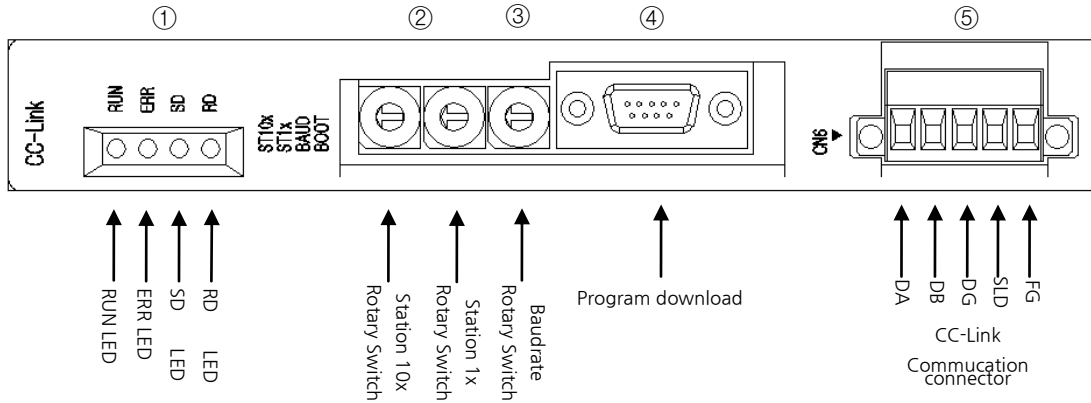

Fig. 3.1 Front View of CC-Link Option Card
The front view of CC-Link Option Board is shown in Fig. 3.1.
CC-Link Option Board, equipped with a total of 4 LEDs, is able to know the CC-Link Adapter status from the outside. Fig. 3.1 ④ shows how it looks like with the following functions.
Use the Station 10x Rotary Switch and Station 1x Rotary Switch in Fig. 3.1 ③ and change into Station Number set in Master to have communication with CC-Link Master. Rotary Switch makes use of a decimal number so you can set a tenth place with 10x Rotary Switch and the first place with 1x Rotary Switch.
Communication speed with CC-Link Master is set by using Baud rate Rotary Switch in Fig.3.1 ②. Rotary Switch uses a decimal number and communication speed for each number is shown in Table 3.3.
This is a STL(Z) 950 5-pin OPEN Connector. It looks like Fig. 3.1 ① and its cable for use should be CC-Link Ver.1.10 defined in CC-Lin. Its colors are defined as DA(Blue), DB(White), and DG(Yellow), while SLD and FG have no definition of color. SLD means cable Shield and FG means Frame Ground. For further details, refer to 4.2 “How to connect CC_LINK network cable”.